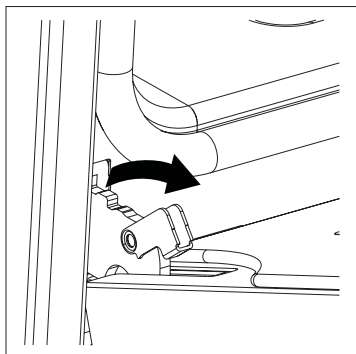
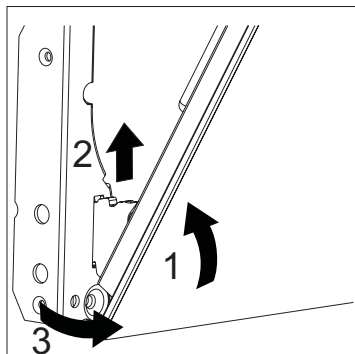
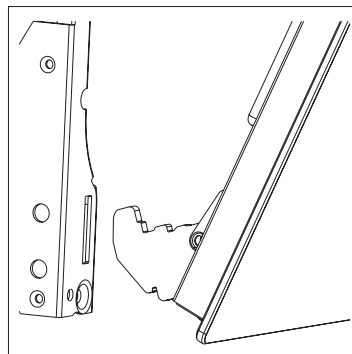

Figure1-1
Figure1-2
Figure1-3
1、 Firstly as shown in figure 1-1, open the oven door to maximum position, stir the toggle cover of the door hinge, then close the door until the door is touching the toggle cover as shown in step 1 of Figure 1-2, use two hands to hold the sides of the oven door and raise it 2-3mm vertically as shown in step 2, then turn the oven door in the direction shown in step 3 to remove the door from the socket for the hinge as shown in Figure 1-3. Put the oven door on a table horizontally after removal.